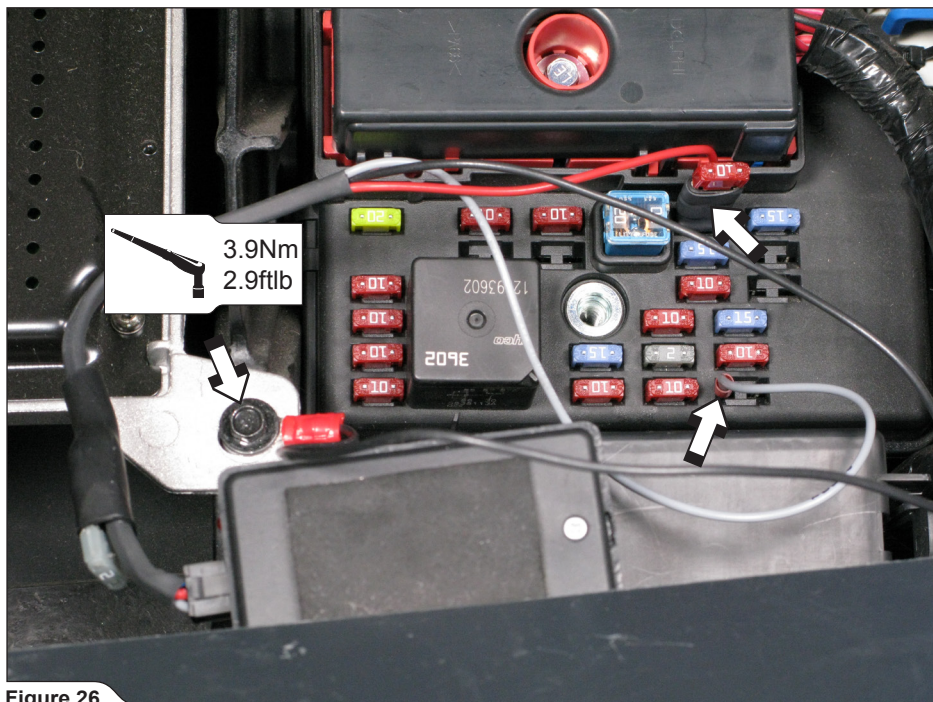

Figure 26
3. Install the fuse tab (red wire) in the seat heater spot, the connector (grey wire) in the exhaust flaps spot (left!) and tighten the ground wire connector (black wire) with marked bolt (**Figure 26**).